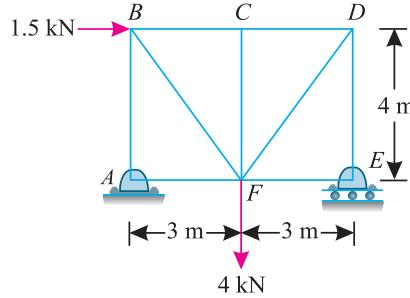

Fig. 12.36.
1. A truss shown in Fig. 12.36 is subjected to two point loads at  $B$  and  $F$ .